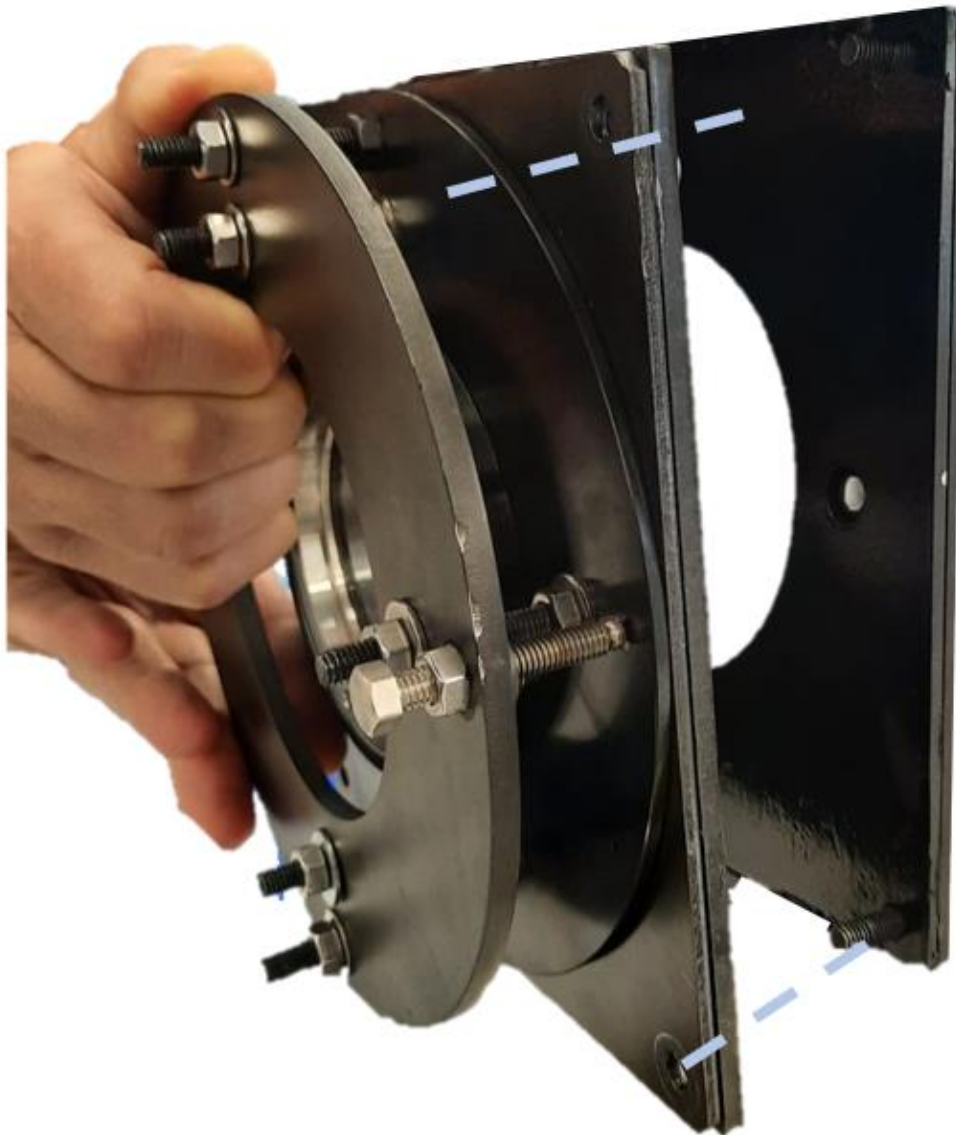

Figure 11: Attaching the duct mount plate
- 4) Place the duct mount front plate on the screws that have been threaded through the drilled screw holes as indicated in Figure 11.